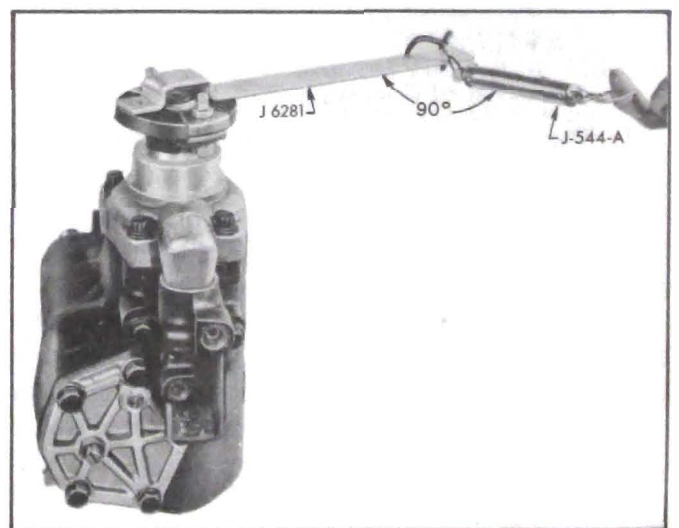

Figure 8-16—Pitman Shaft Adjustment
1. Place power steering gear assembly in vise with wormshaft up. See Figure 8-16. Install Over Center Adjuster J-6281 on flexible coupling.